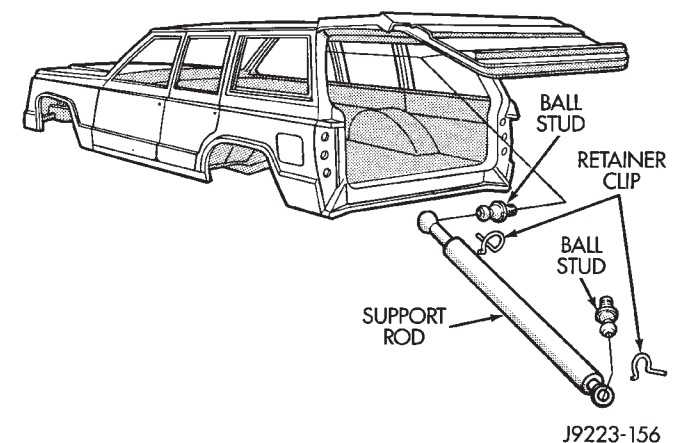

Fig. 128 Support Rod, Retainer Clips and Ball Studs
- (4) Disconnect the support rod and cylinder from the ball studs and remove the cylinder from vehicle (Fig. 128).